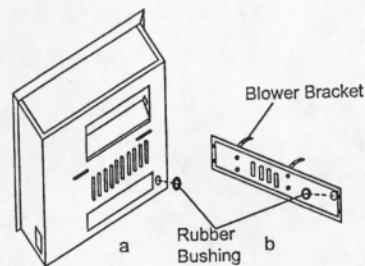

Figure4-Installing Bushing
5. Reset the stove on its pedestal vertically. Attach one rubber bushing provided in blower kit into the hole on the right side of the rectangular knock-out hole on the back panel (see Figure 4-a).
8. Attach another rubber bushing on the hole upright position of the bracket (See Figure 4-b).